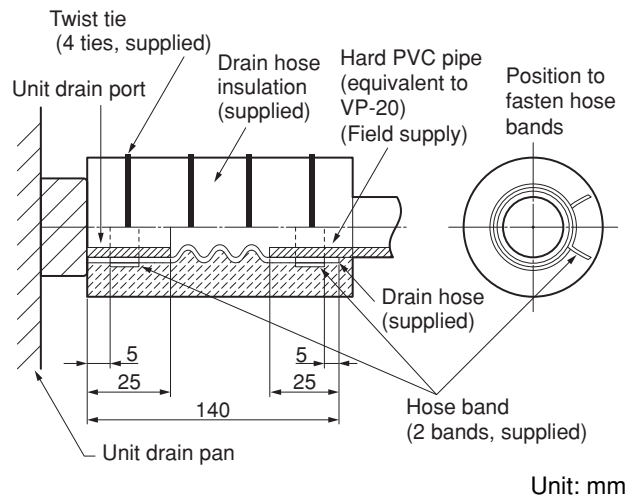

Fig. 3-80
- Attach so that the hose band fastener is on the side of the drain port. (Fig. 3-80)